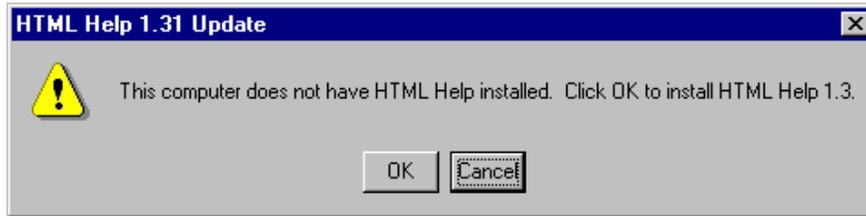

Figure 53. Installing the Storage Agent, install HTML help
5. A warning message may appear, if there is no HTML help installed on your system. Click **OK** to install HTML help. If you do not install HTML help, you will not be able to read the documentation provided with the Storage Agent (Figure 53).